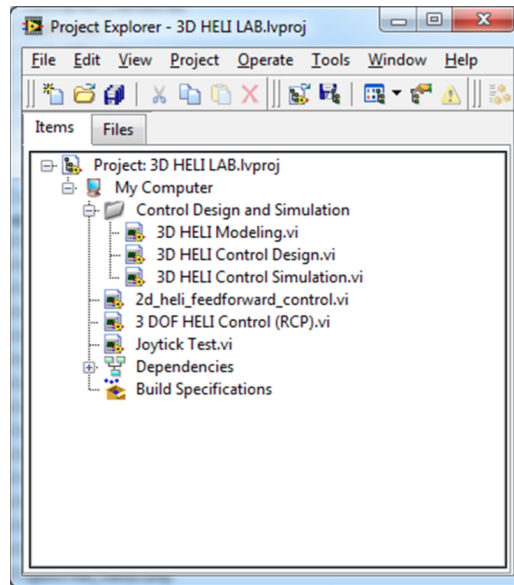

Figure 1: LabVIEW project used for the 3 DOF Helicopter provided by Quanser.
2. Open the LabVIEW project called 3D HELI LAB.lvproj, shown in Figure 1.